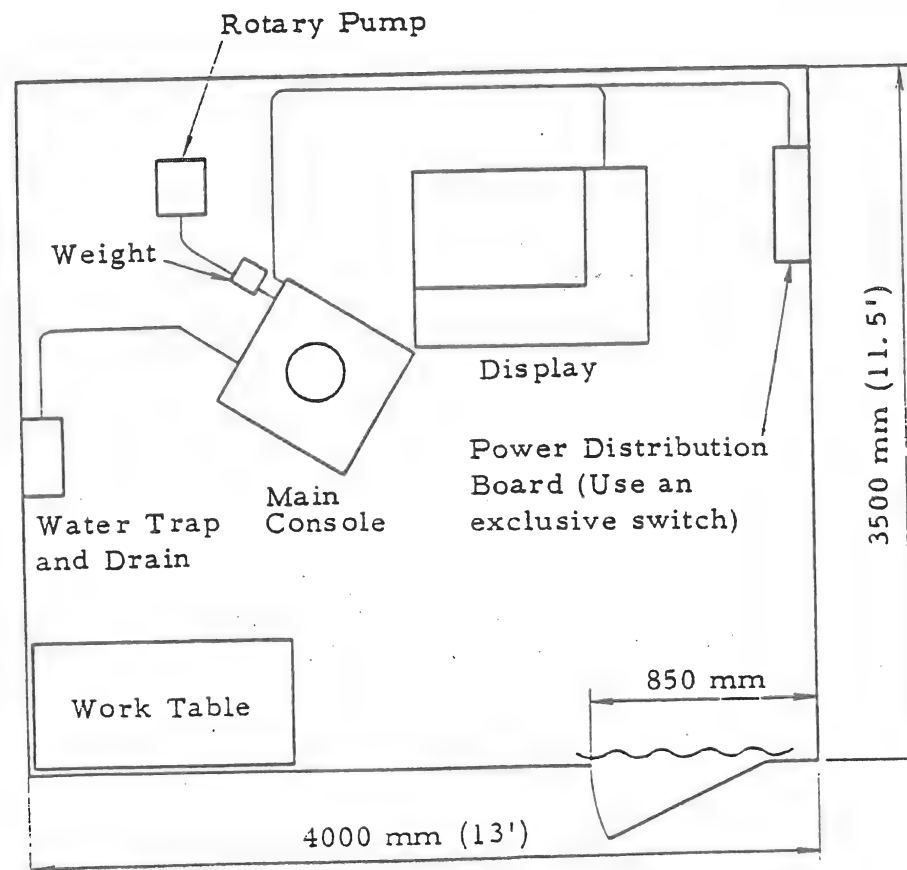

Fig. 3-1 Installation Layout
(9) Installation Layout (See Fig. 3-1.)
Place the main console and display unit as shown in Fig. 3-1. Leave some leeway for the table as it is not fixed at this point. Install the main console on the spacer provided. (Refer to Fig. 3-1.)